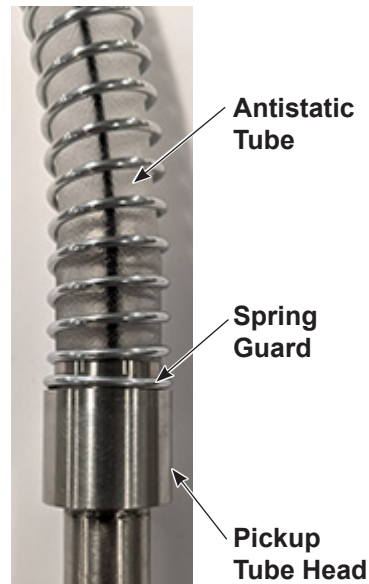

Figure 5 Assembly Pickup Tube with Spring Guard
3. See Figure 5. Bring the spring guard down and rotate clockwise over the tubing onto the pickup tube to make contact with the pickup tube head. This creates both strain relief for the tubing and grounding for the spring.